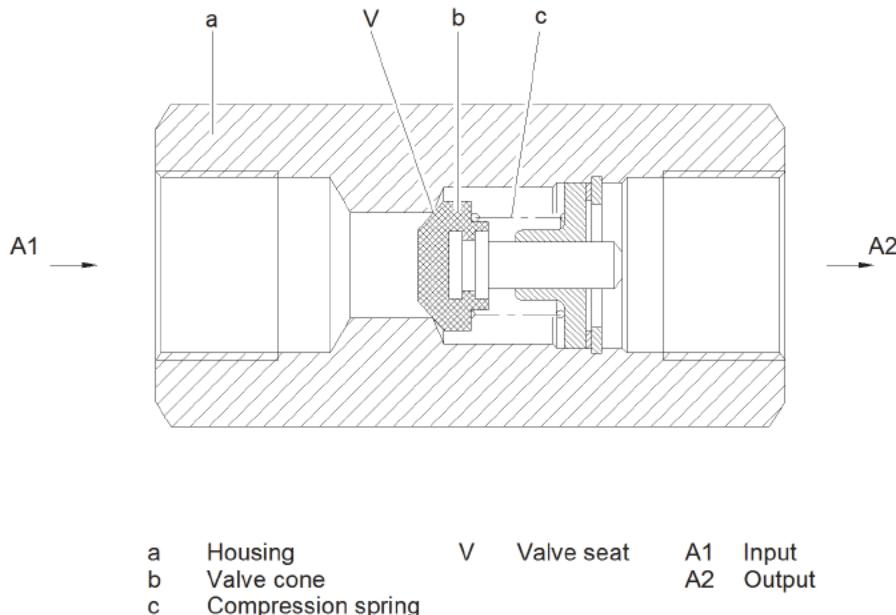

Figure 2-15: RV-10 Check Valve Diagrammatic
The check valve consists essentially of body (a) (Figure 2-15), the valve cone (b), and the compression spring (c). The body (a) has a valve seat (V). The valve cone (b) is spring-loaded, i.e., it is pressed onto the valve seat (V) by the thrust of the compression spring (c). The body (a) has threads for connecting pipes. The direction of flow is indicated by an arrow on the outside of the body (a).